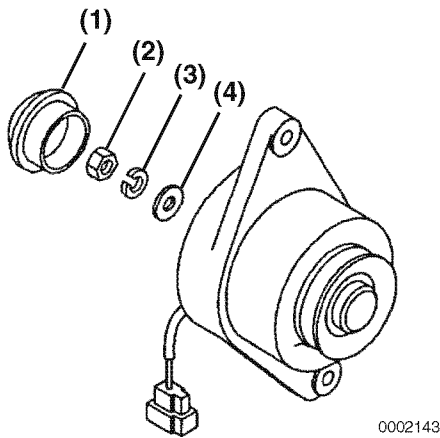

Figure 11-28
6. Reinstall the flat washer (Figure 11-28, (4)), lock washer (Figure 11-28, (3)), and nut (Figure 11-28, (2)). Tighten the nut to the specified torque.
7. Reinstall the rear cap (Figure 11-28, (1)).